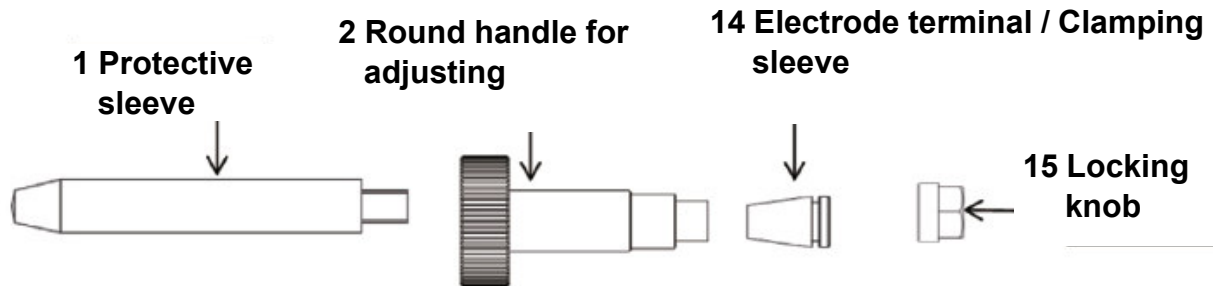

Fig. 3: Description of the device EG 5
Step 6: Turn off the power after grinding, remove the tungsten electrode clamp (Fig.3). Turn the locking knob (Item 15, Fig. 3) open. Remove the Tungsten electrode clamp (Pos.14, Fig.3) and the electrode. Place the finished tungsten electrode in a protected location.